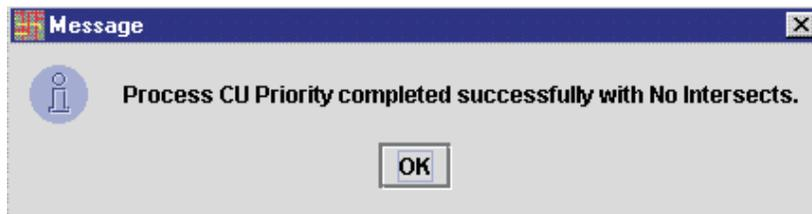

Figure 43. Success Message
- If the tool was able to satisfy all of the availability requirements, a message (like that shown in Figure 43) is displayed.